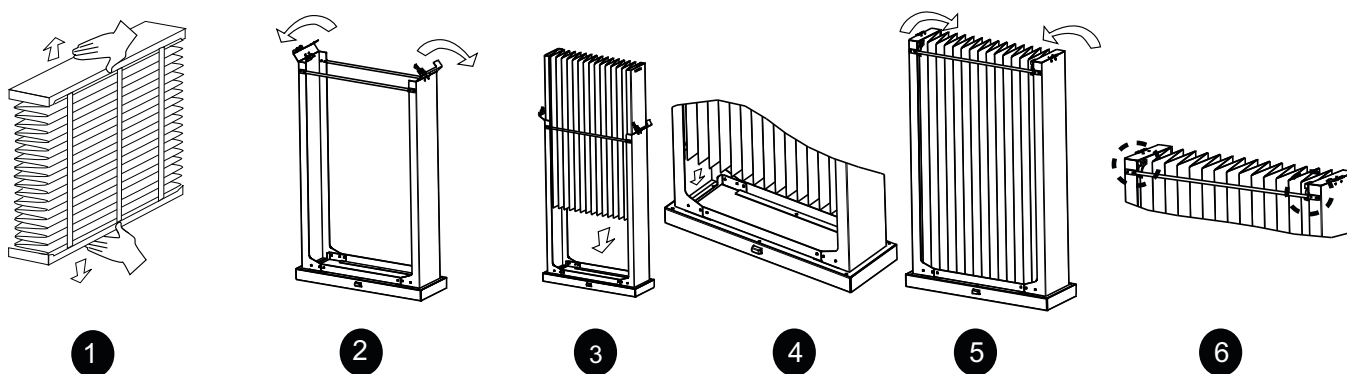

Fig. 9 – EZ-Flex Filter Assembly
7. Remove Filter from box, assemble then place in cabinet. See Fig. 9.